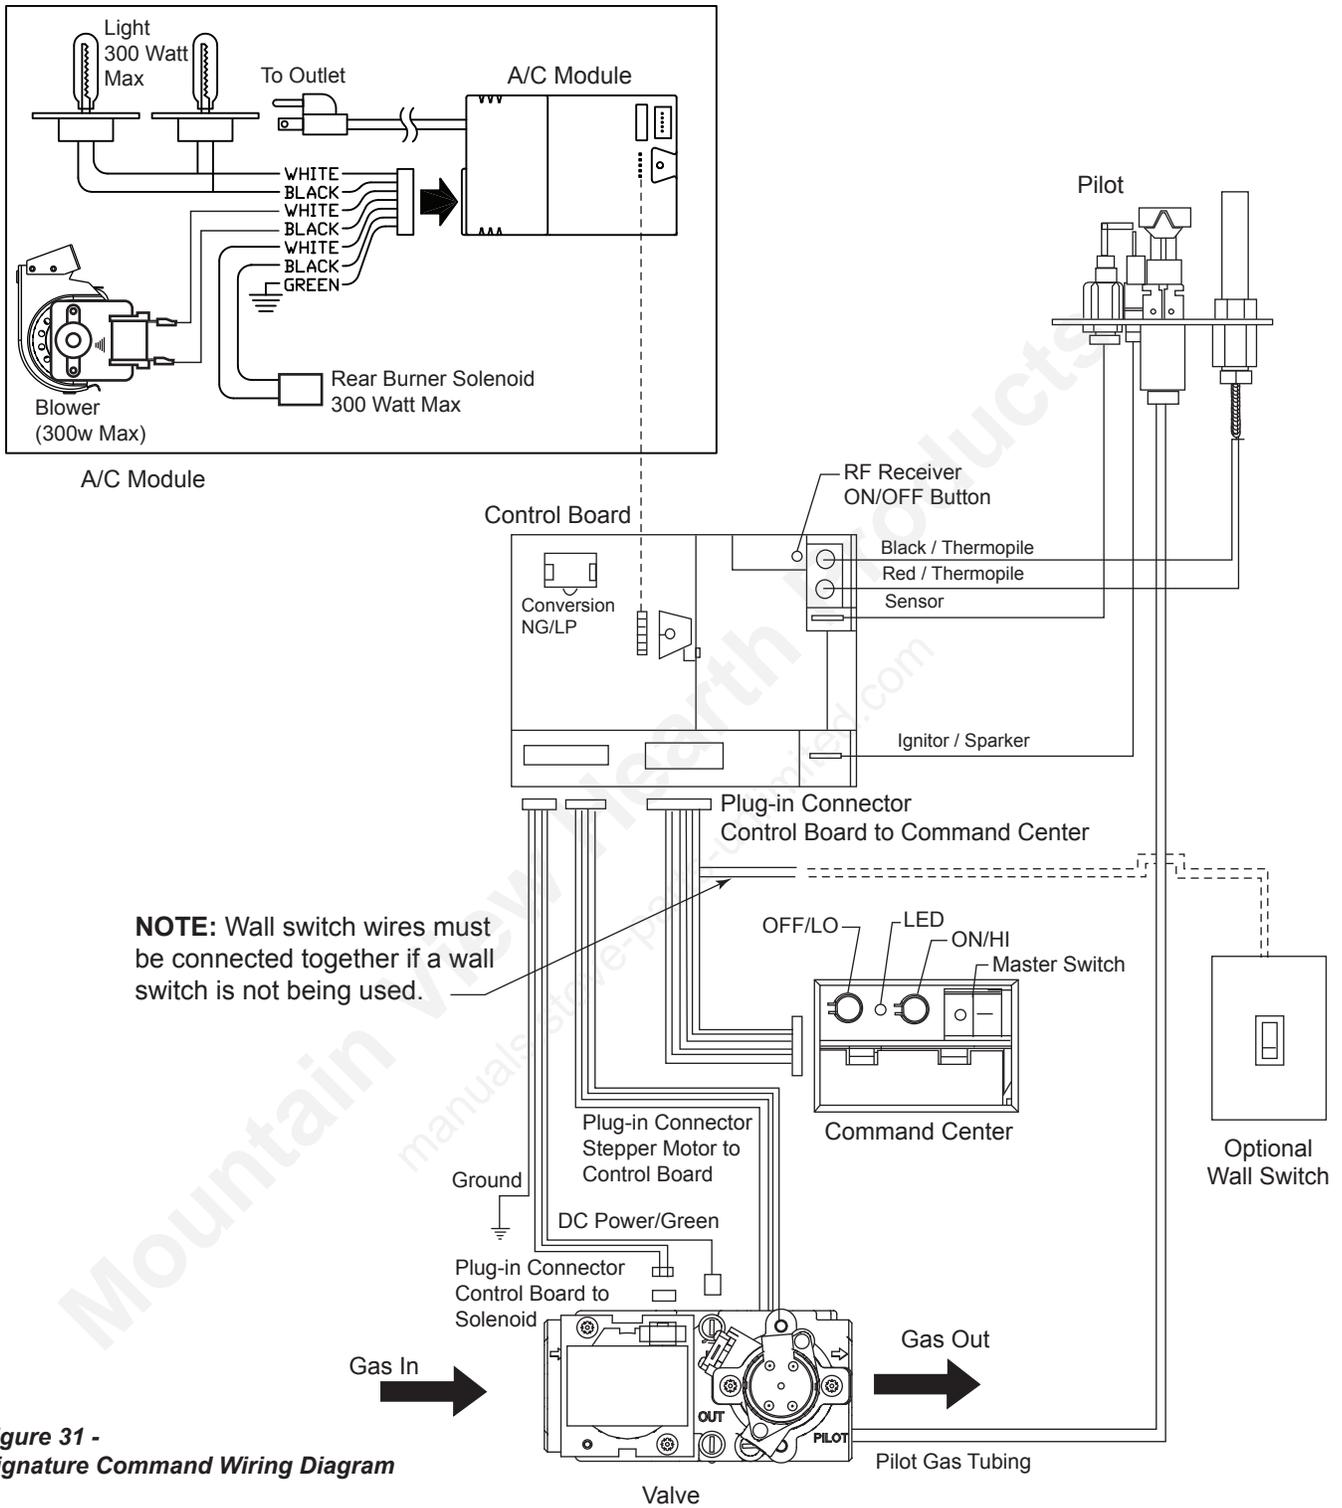

Figure 31 - Signature Command Wiring Diagram
The wall switch wire connection is located off the 2 ft. wire harness from the control box to the command center. *Figure 31*. The connection is labeled "Wall Switch". Unplug the male and female connectors and connect the two (2) low voltage wires provided. Run wire to desired location on wall. Up to 50 ft. of 18 ga. wire may be used if necessary. Attach wires to wall switch. Mount the wall switch in to junction box and screw on cover.